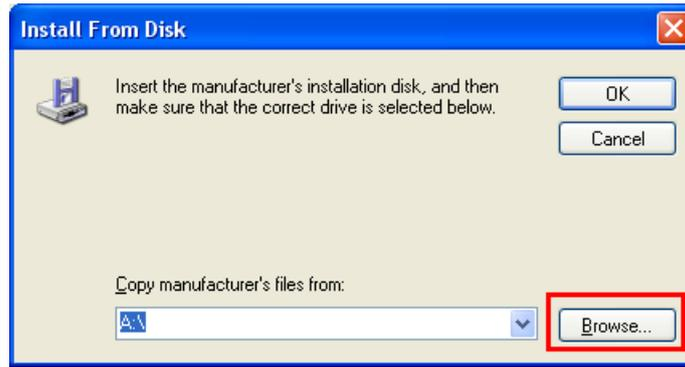

Fig. 3-4 Select the target file of driver
- 5) A dialog box named "Install From Disk" will pop up, see Fig. 3-4. Click [Browse...] button to open the target file of driver.